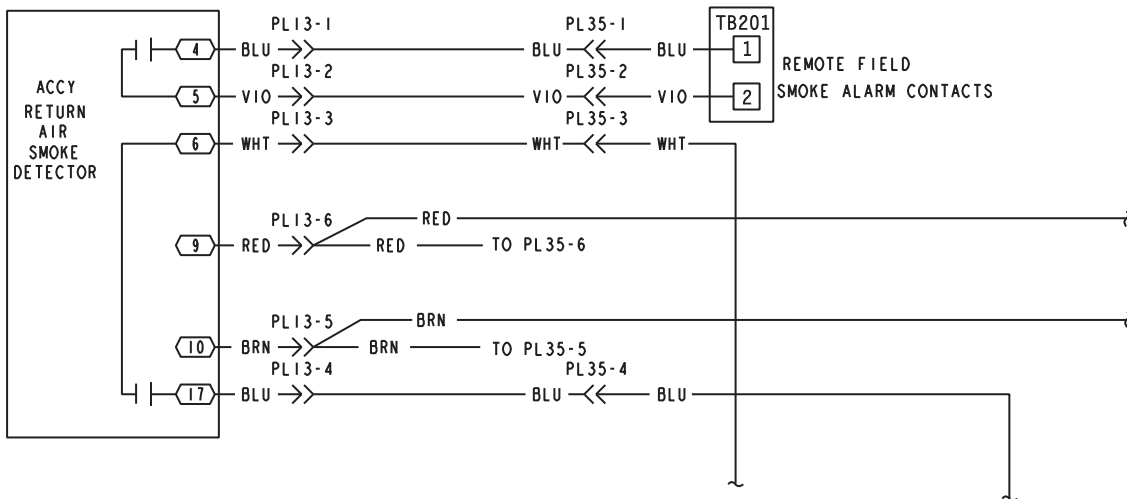

Fig. 64 — Return Air Smoke Detector Wiring
- Return air smoke detector (Fig. 64)